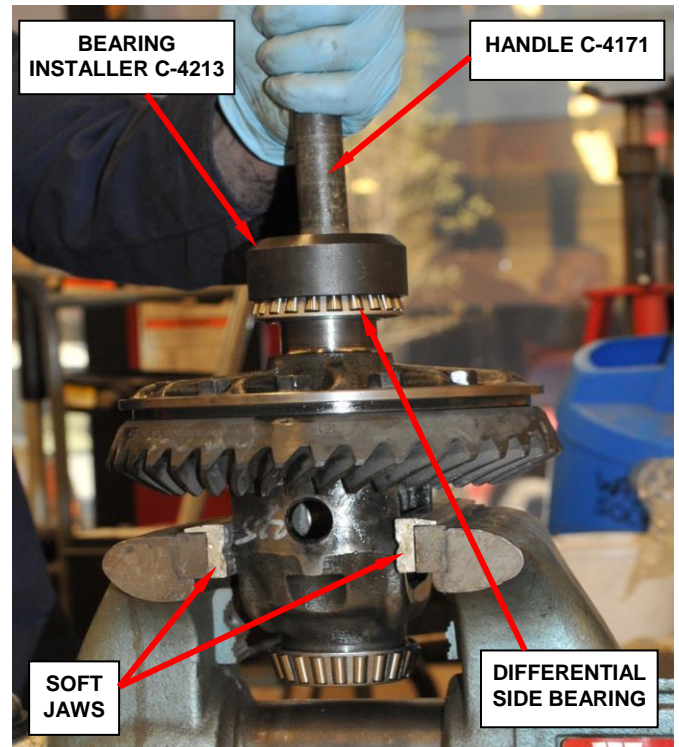

Figure 33 – Install Differential Side Bearings
35. If replaced, install the differential side bearings with Bearing Installer C-4213, Handle C-4171 and a hammer (Figure 33).